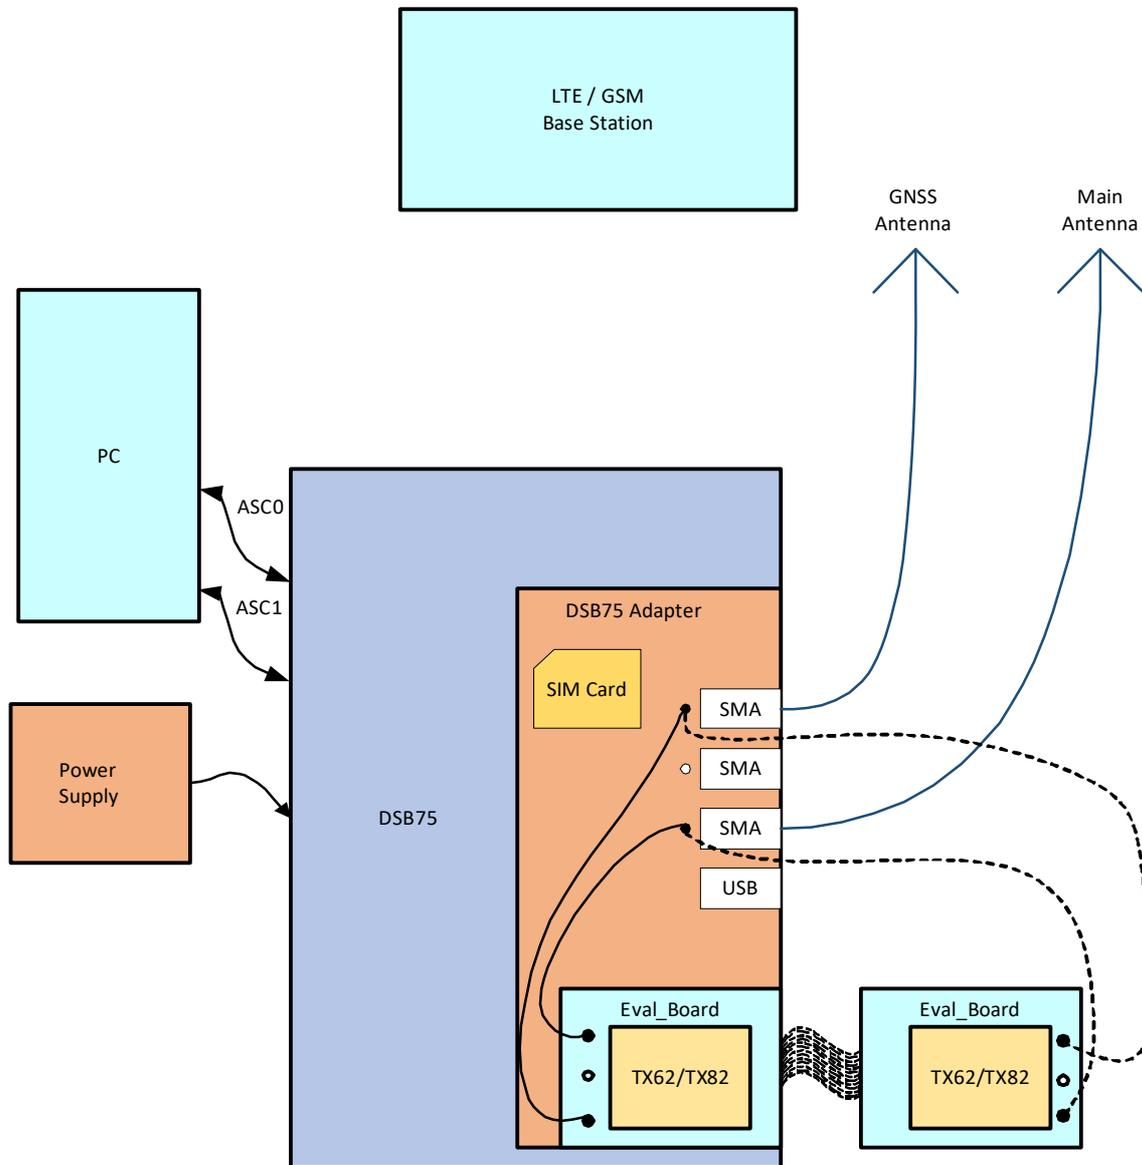

Figure 75: Reference equipment for type approval
- For RF performance tests a mini-SMT/U.FL to SMA adapter with attached 6dB coaxial attenuator is chosen to connect the evaluation module directly to the LTE/GSM/GNSS test equipment instead of employing the SMA antenna connectors on the TX62/TX82-DSB75 adapter as shown in Figure 75. The following products are recommended: